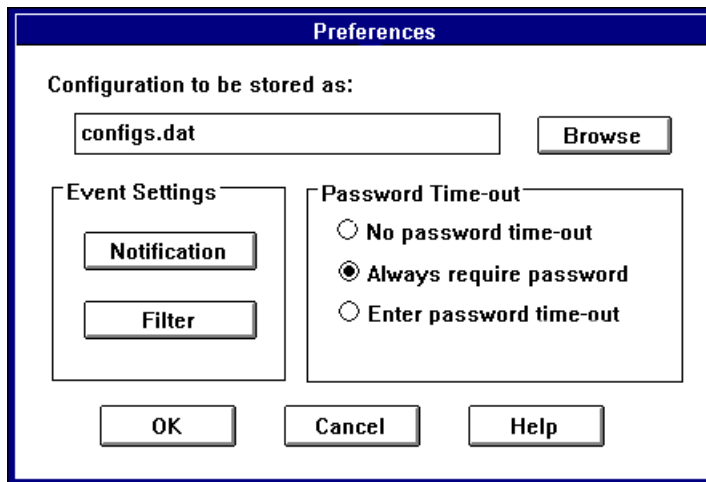

Figure 7-8. Preferences Dialog Box
- 1 Click the  button. The Preferences dialog box appears, as shown in Figure 7-8.